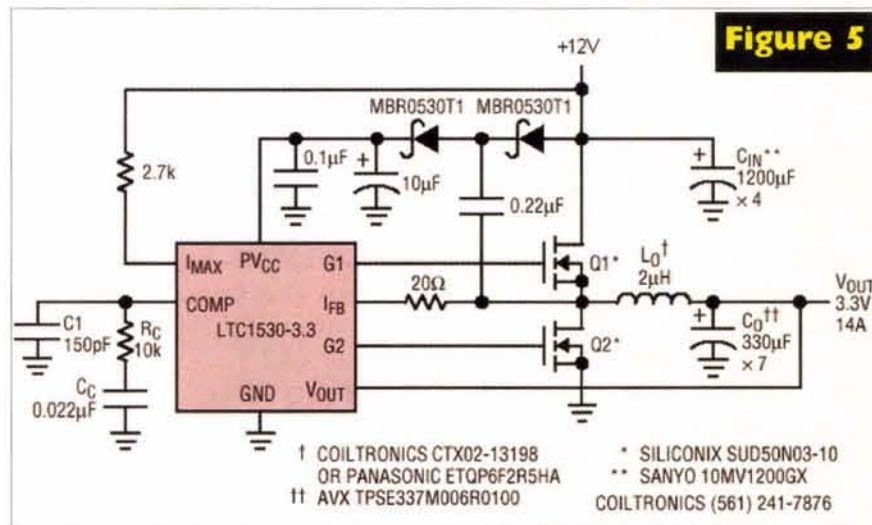

Figure 5
A. This is an easy call, but I hope you have your construction skills up to speed because the LTC1530 IC has a tiny SOIC footprint, as do the power transistors, and a lot of attention has to be paid to the layout. I suggest studying the datasheet (www.linear-tech.com/pdf/1530fs.pdf) before you attempt this project (Figure 5).